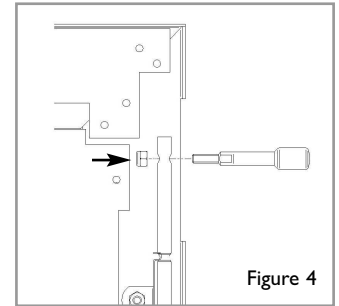
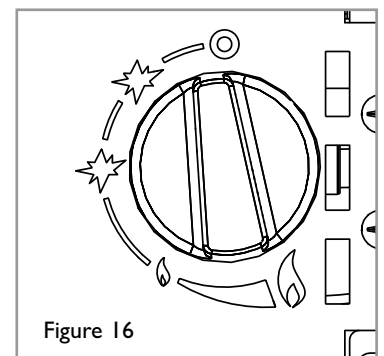

Figure 4
Figure 16
**Slide controls models** : The control knob is supplied as a loose part. Insert the control knob into the hole in the top of the slide control spindle (Figure 4). Secure the control knob in position using the M4 nyloc nut provided. Affix the Slide control position marking sticker on the trim next to the control knob as shown in figure 16.